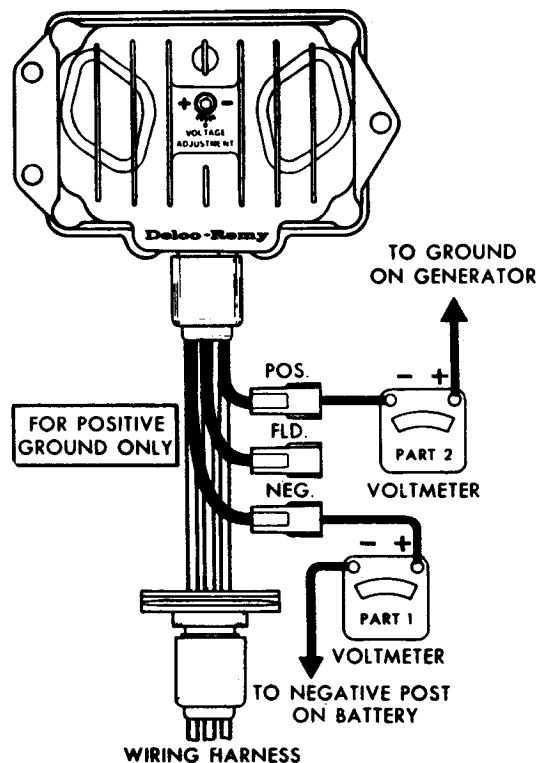

Figure 14—Voltmeter connections to test adapter for positive ground circuits only.
- b. For positive ground systems, connect a voltmeter as shown in Part 1 and Part 2 in Figure 14.